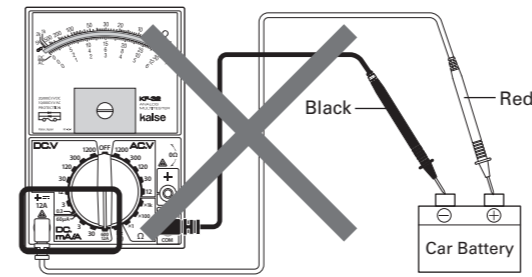
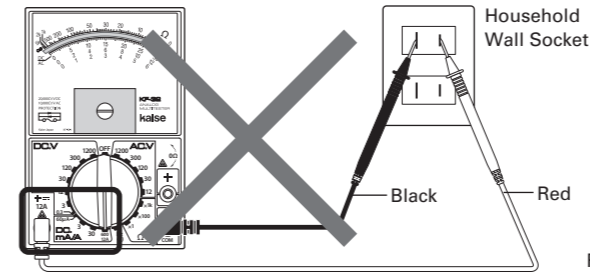

Fig. 3
Fig. 4
3. Do not measure any voltage in 12A DC range. Do not measure +/- terminals of car battery directly (fig. 3). Do not measure household wall socket (fig. 4).